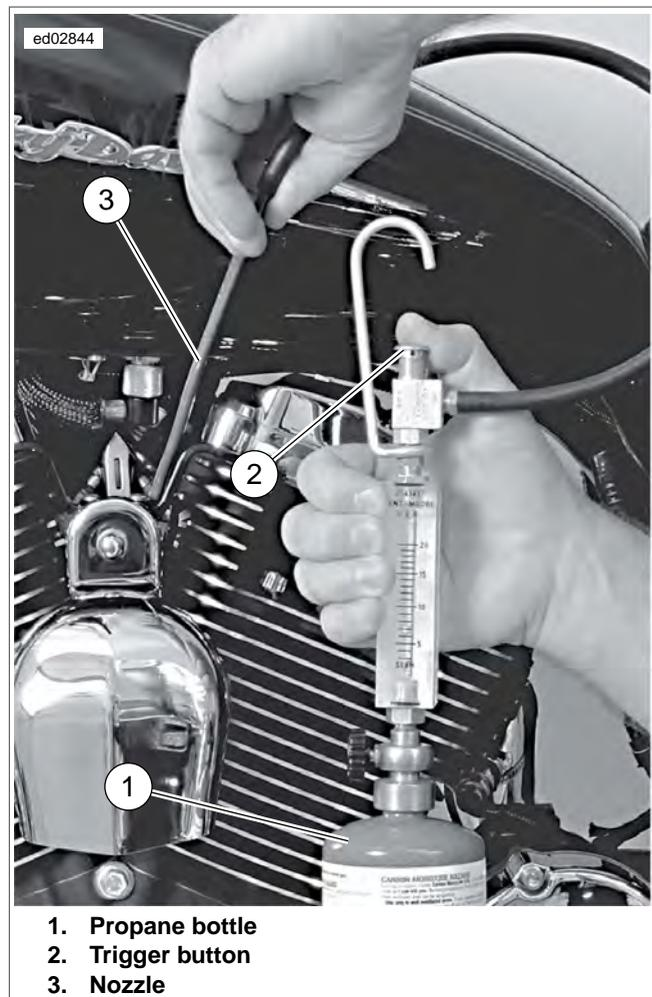

Figure 4-13. Checking for Leaks
3. See Figure 4-13. Aim nozzle (3) toward possible sources of leak such as intake manifold mating surfaces.
4. Push trigger button (2) to release propane. Tone of engine will change when propane enters source of leak.